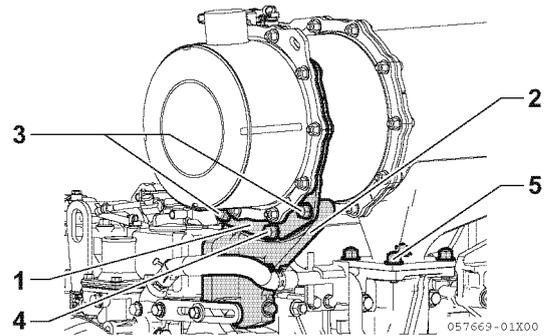

Figure 13-27
- Temporarily tighten the stiffener (1 Figure 13-27) and the DPF stay (2 Figure 13-27) on the silencer (or outlet flange) side with flange bolts (2 pcs.) (3 Figure 13-27) and a flange nut (4 Figure 13-27) until it is seated.
- Next, fully tighten the flange nuts on the exhaust manifold flange (4 pcs.) (5 Figure 13-27), then fully tighten the DPF stay flange bolts and flange nuts.